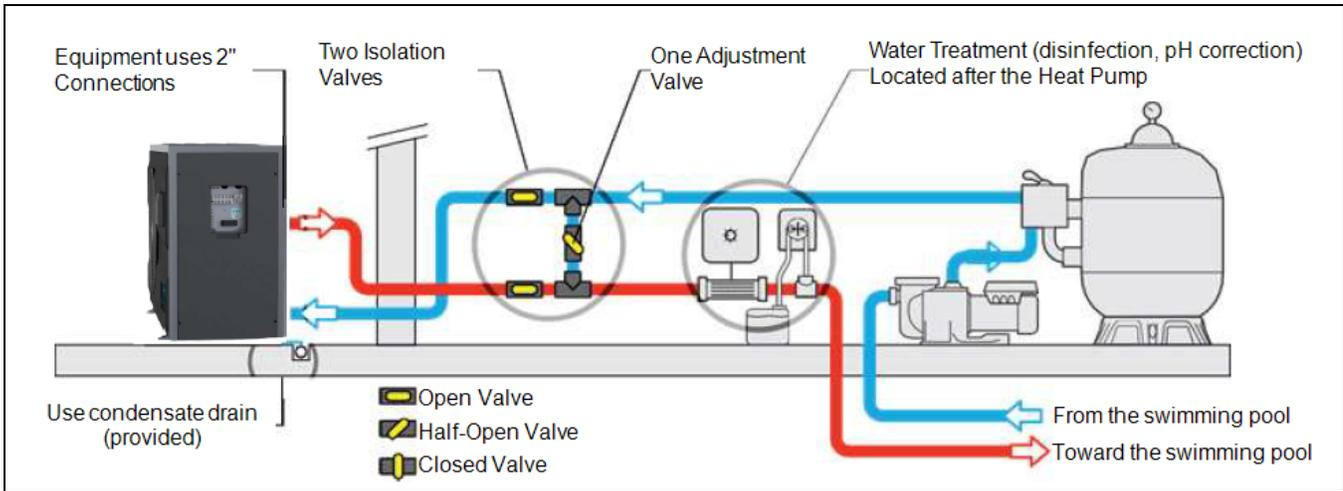

Figure 1
- Three valves must be installed before the heat pump; Two isolation valves, and one adjustment valve as indicated. See Figure 1.